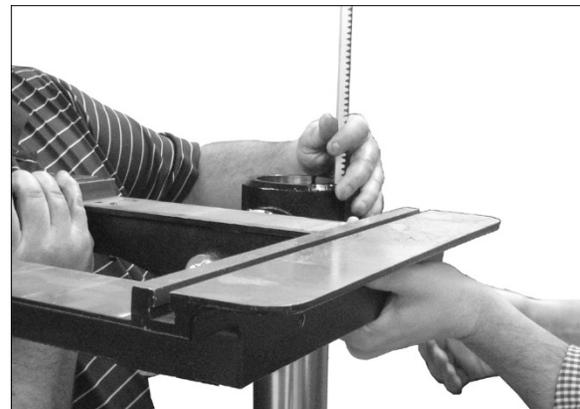

Figure 6-4
7. Insert rack (Figure 6-4) into slot in table bracket, meshing the rack teeth with the worm gear. NOTE: The longer un-toothed section of the rack is toward the top.